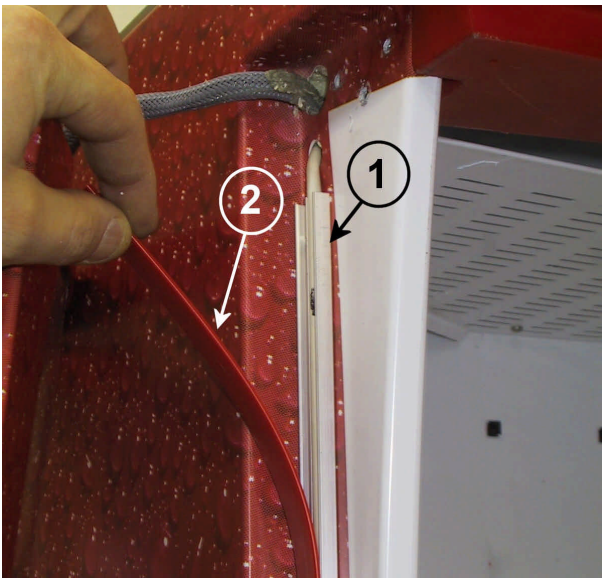

Figure 34
The cabinet frame heater takes the supply directly from the line and is controlled by the main switch (IG) (99). It's located in the aluminium profiles (62 and 63), marked with "1" in Fig. 34 and 35, and is protected by plastic cover profiles (1, 65 and 66), marked with "2" in Fig. 34 and 35.